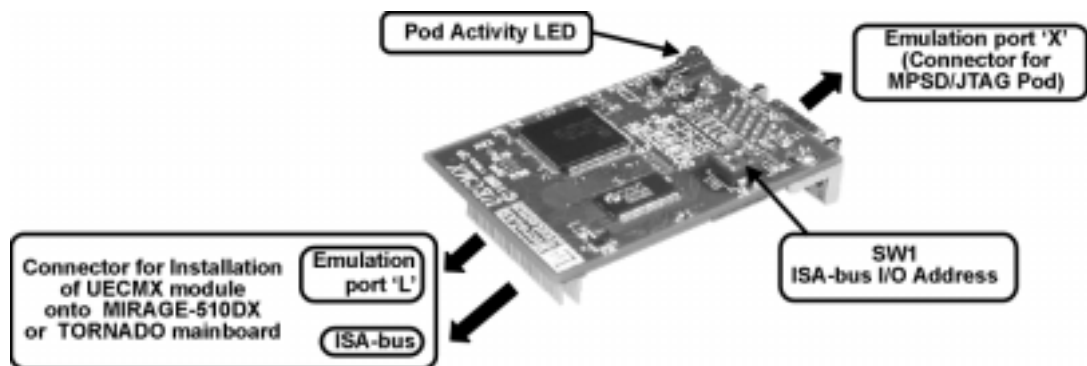
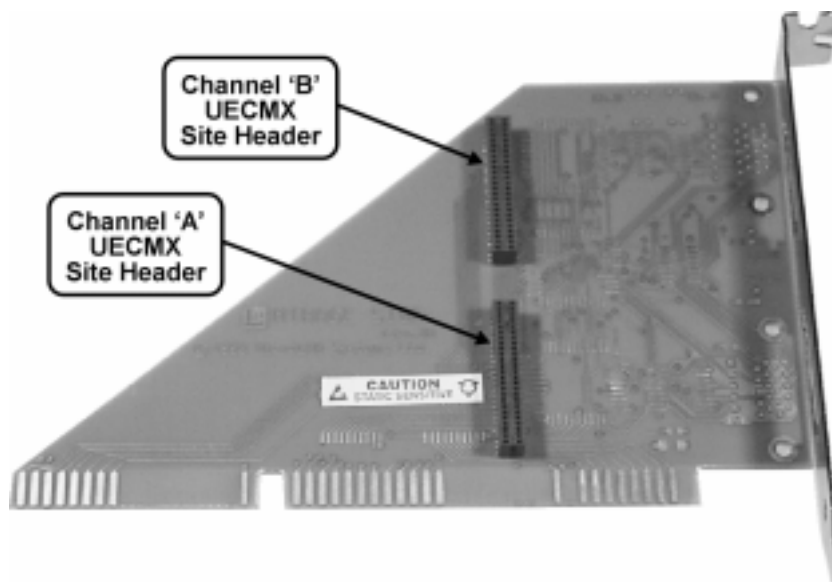

Fig.2-1. *UECMX* construction.
Fig.2-2. MIRAGE-510DX emulator ISA-bus interface mainboard.
*UECMX* module (fig.2-1) is designed as a daughter-card module for *TORNADO* DSP system mainboard and *MIRAGE-510DX* emulator ISA-bus interface mainboard (fig.2-2).
*MIRAGE-510DX* emulator mainboard (see fig.2-2) is designed to plug into 16-bit ISA-bus slot of host PC and contains two connectors for installation of two *UECMX* modules (sites 'A' and 'B') thus delivering two completely independent JTAG or MPSPD emulation channels for emulation of external TI TMS320 DSP.
ISA-bus I/O base address for *UECMX* on-board emulation controller is set via the on-board dual-button DIP-switch SW1 (fig.2-1) in accordance with table 2-1.
Also, *UECMX* provides visual control of activity for on-board emulation controller via on-board LED indicator (see fig.2-1).